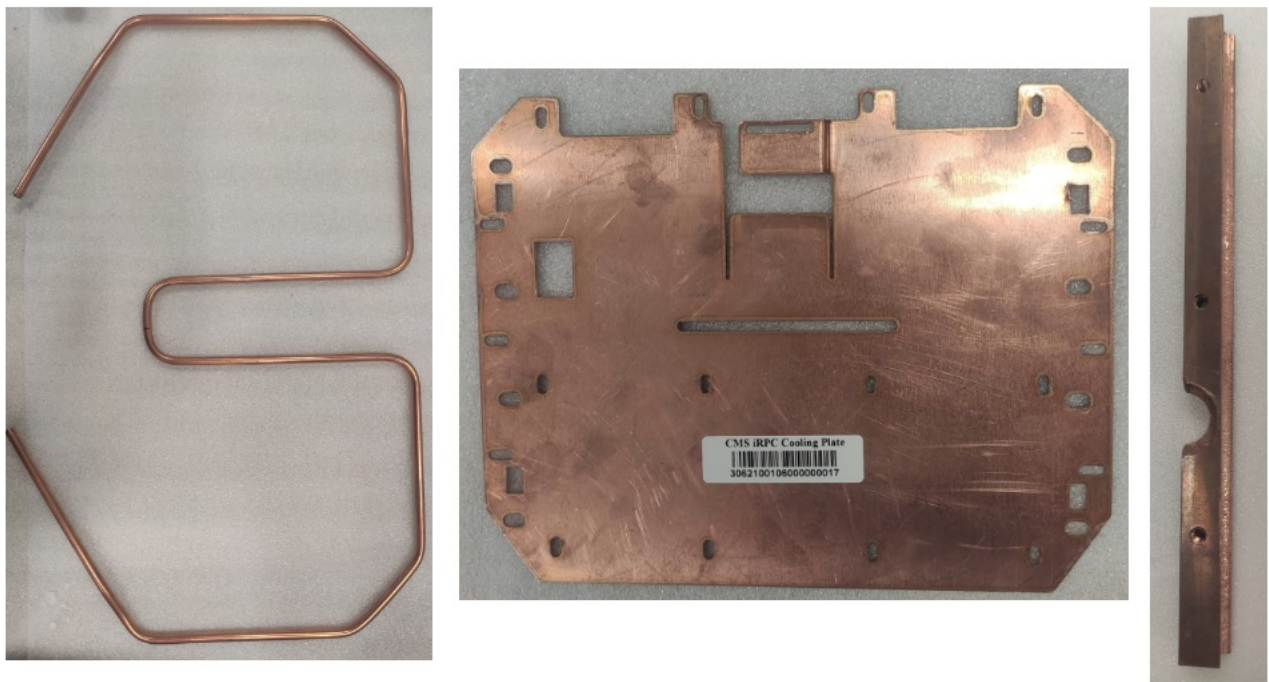
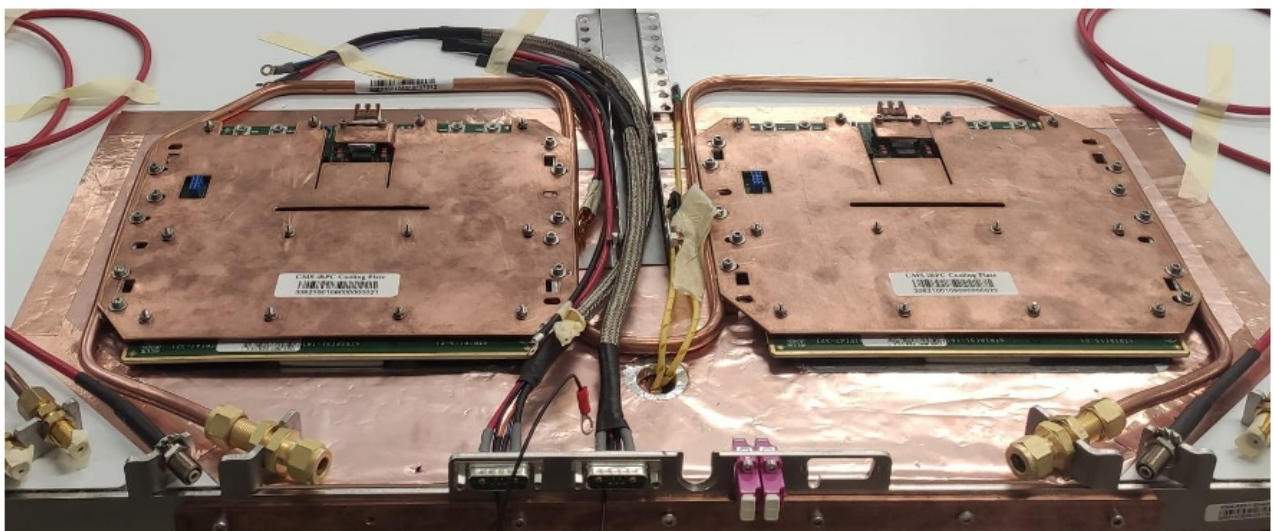

Figure 1
Figure 2
The electronic FEBs need to be cooled during operation. The cooling process will be done by circulating water in cooling pipes shown in Figure 1. Left attached to the cooling plate shown in Figure 1. Middle. The FEBs are sitting on bottom of the cooling plates. The cooling plate is attached to the cooling pipe by a L shape connector, shown in Figure 1. Right. Figure 2 shows the FEBs mounted on the chamber with the cooling components (Pipes, Plate, L bars).
12. Check the set point on the chiller by pressing on SET button. It should be at 17 oC and if not, you can adjust by pressing on SET button and in same time increase/decrease the temperature from the arrows shown in Figure 2 to reach 17 oC